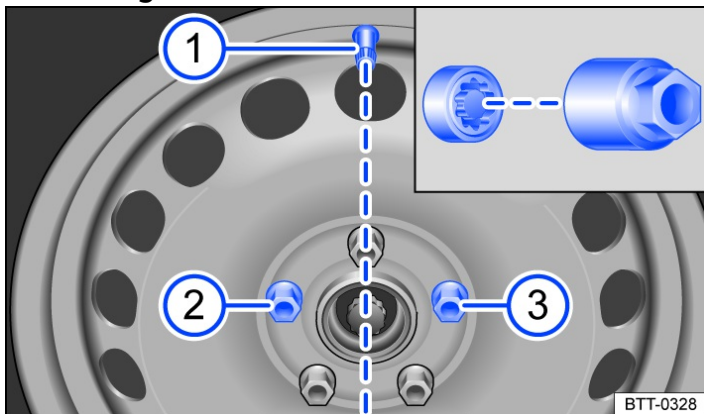

Fig. 2 Changing a wheel: tyre valve (1) and locations of the anti-theft wheel bolt (2) or (3).
On wheels with a wheel cover, the anti-theft wheel bolt must be screwed in at position → Fig. 2 (2) or (3) according to the